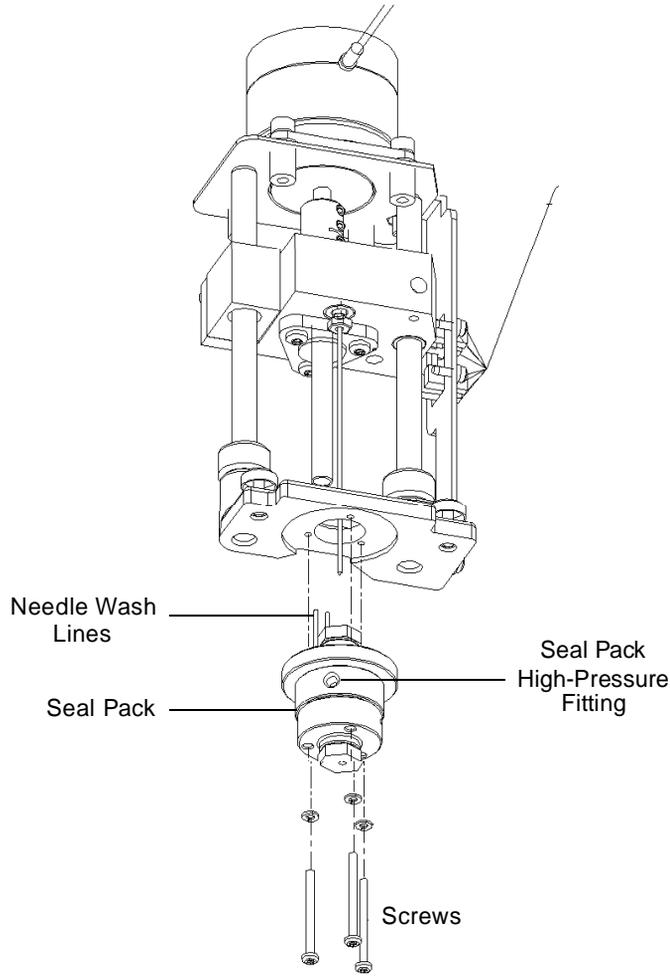

Figure 7-13 Removing the Seal Pack
6. Lift the injector assembly a few inches and remove the seal pack high-pressure fitting (see Figure 7-13).
1. Disconnect the tubes attached to the needle wash lines (Figure 7-13).
2. Use a TORX T-10 wrench to remove the three mounting screws and washers that hold the seal pack to the base of the injector (see Figure 7-13).
2. Reconnect the high-pressure seal pack inlet and outlet (red) fittings (see Figure 7-13).
3. Connect the two needle wash lines (see Figure 7-13). Connect the green line to the upper seal wash body, and the yellow line to the lower seal wash body.
4. Insert the new seal pack into the base of the injector (see Figure 7-13).